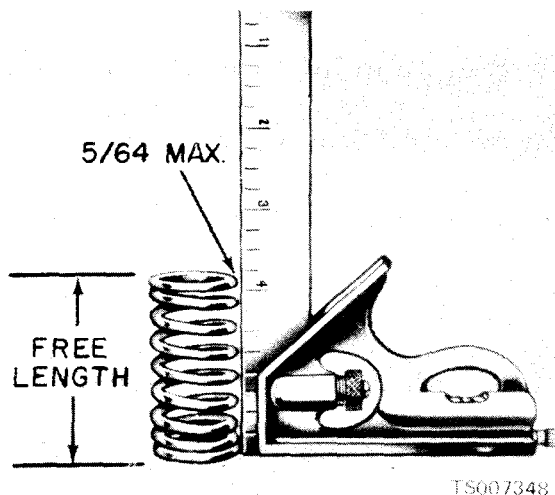

Figure 6-19. Checking Valve Spring Squareness.
b. *Valve Spring Squareness.* Check each spring for squareness using a steel square and a surface plate (fig. 6-19). Stand the spring and square on end on the surface plate. Slide the spring up to the square. Rotate the spring slowly and observe the space between the top coil of the spring and square. If the spring is out of square more than 5/64 inch, replace it. Follow the same procedure to check new valve springs before installation.